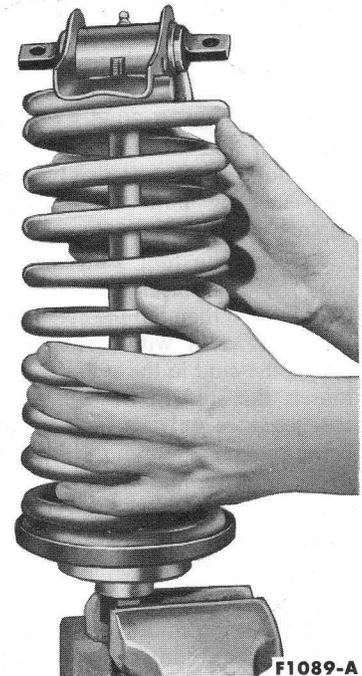

FIG. 5—Spring Replacement
1. If the spring is to be replaced, measure the spring height compressed in the tool. Place the tool nut in a vise and rotate the assembly by hand until the spring is decompressed (Fig. 5).